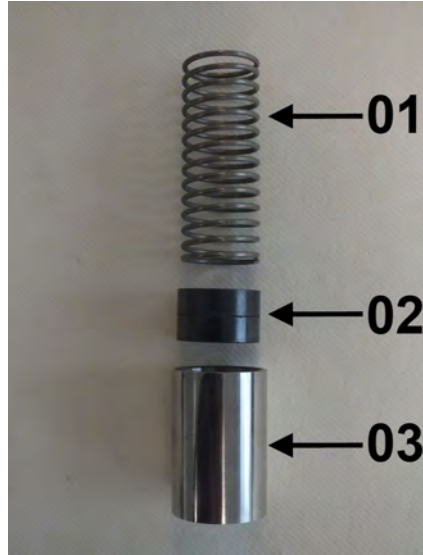

Fig. 42: Spring, magnets and float
7. → The inner parts of the flow monitor consist of the (Fig. 42/01) spring, (Fig. 42/02) magnets and (Fig. 42/03) float.